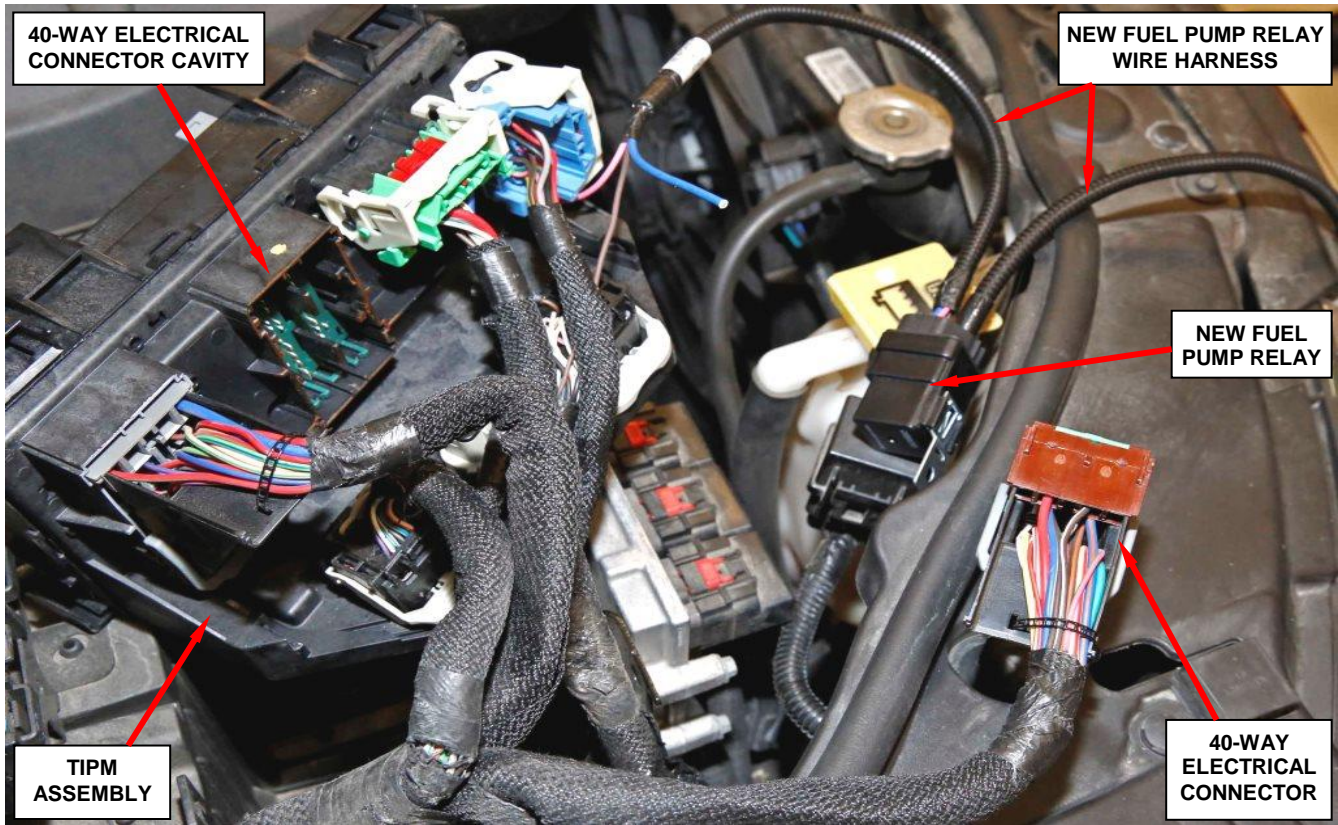

Figure 10 – TIPM 40-Way Electrical Connector
13. Unplug the 40-way electrical connector located on the bottom side of the TIPM (Figure 10).
NOTE: The plastic tie strap that holds the wire harness to the wire cover must be cut off and discarded (Figure 10).